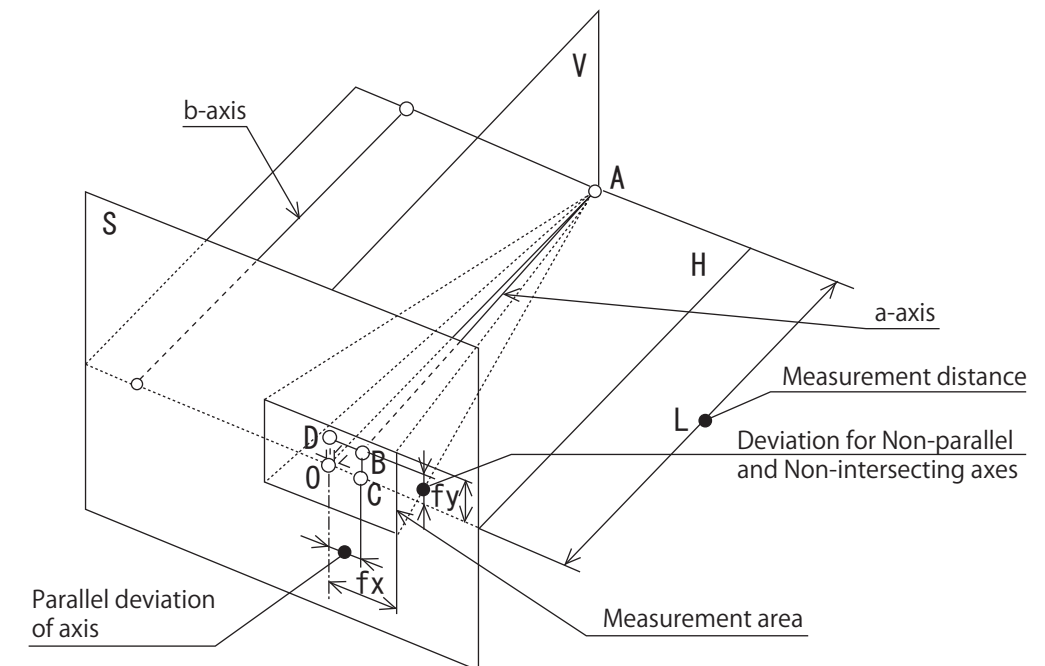

Fig. 4-1 Deviations for Parallel axis, Non-parallel and Non-intersecting axes.
- 2) **Parallel deviation of axis:** Distance between C and $O^{(1)}$ (Refer to Fig. 4-1) where both ends of measurement distance L on the a-axis on one side of the gear are points A and B; and Flat face H is surface to include one of the points A and one of shaft centre b (b-axis); and flat face V is surface through point A and parallel to b and perpendicular to flat face H, and orthogonal projection of point B to H is C.
- 3) Refer to Fig.4-1, **deviation for Non-parallel and Non-intersecting axes:** Distance between points O and D where D is orthogonal projection of point B to V, referring to above (2).